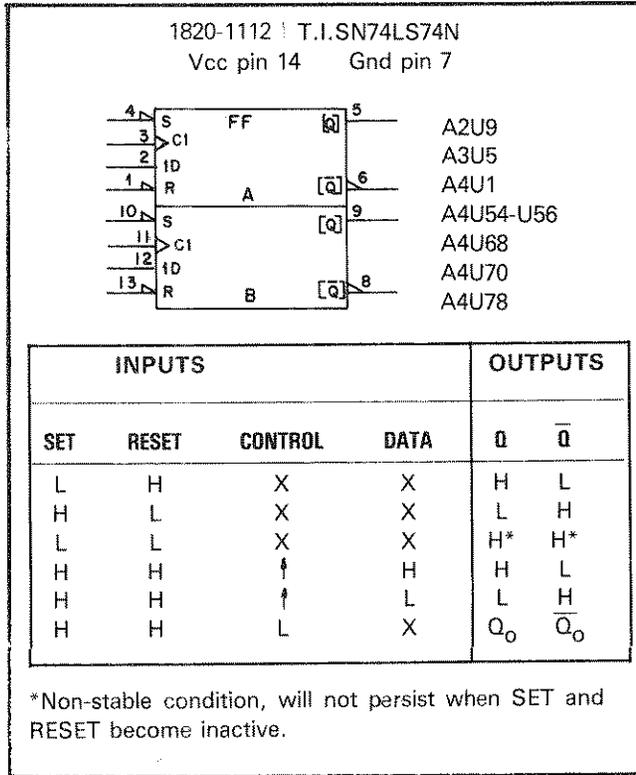
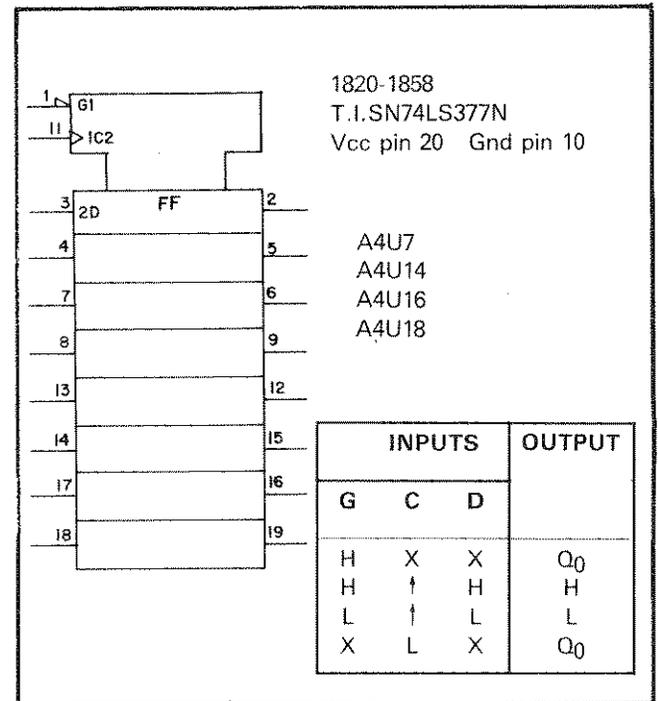

Figure B-13. Dual D-Type Flip Flop
Figure B-16. Octal D-Type Flip Flop
**D-Type Flip Flop.** D-type flip flops are used for temporary storage of one bit of binary data. Figures B-13 through B-16 show four varieties of D-type flip flops. In each, the D input is stored and transferred to the output when the control input, C, goes from low to high. The C input in Figure B-16 is gated
by a low level at the G input. Note that Figure B-13 contains two identical flip flops, each with its own control, set, and reset inputs, while the others have common control inputs. The flip flops in Figures B-13 and B-14 have inverting as well as non-inverting outputs.